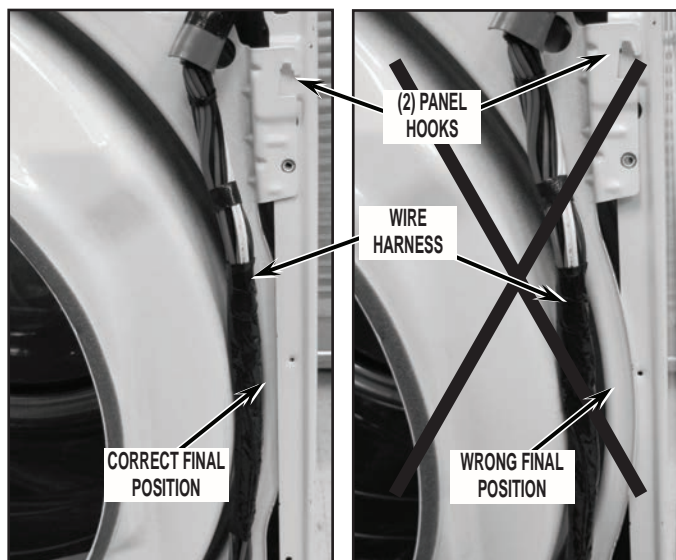

FIGURE 36
- Swing the front bulkhead to the dryer front and reattach the two (2) wire harness clips to the front of the front bulkhead. When re-hanging the front bulkhead to the dryer, make sure the wire harness is not getting pinched and the mid-section of the front bulkhead edge is behind the side panel edge. See *Figure 36* as well as *Figure 13*.